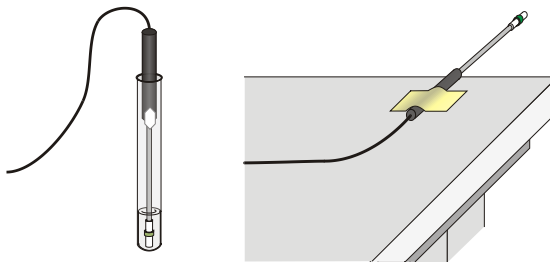

Figure 1
4. Wrap the probe with a square piece of filter paper secured by a small rubber band as shown in Figure 1. Roll the filter paper around the probe tip in the shape of a cylinder. **Hint:** First slip the rubber band up on the probe, wrap the paper around the probe, and then finally slip the rubber band over the wrapped paper. The paper should be even with the probe end.
7. After the probe has been in the ethanol for at least 30 seconds, begin data collection. Monitor the temperature for 15 seconds to establish the initial temperature of the ethanol. Then remove the probe from the ethanol and tape it so the probe tip extends 5 cm over the edge of the table top as shown in Figure 1.